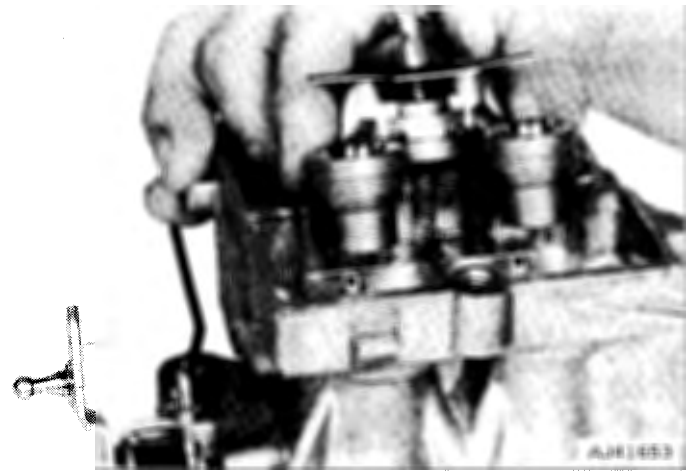

Fig. 4-47 Removing Booster Venturi Assembly
(15) Remove accelerator pump discharge screw, air distribution plate, booster venturi and gasket (fig. 4-47). Invert main body and let accelerating pump discharge weight and ball fall into hand.
(16) Disconnect accelerator pump operating rod from overtravel lever. Remove rod and retainer.